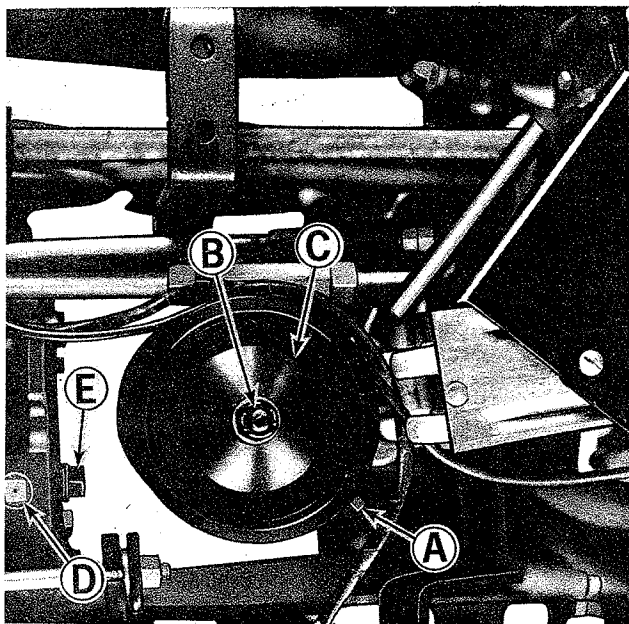

Figure 28. Hydrostatic transmission fluid reservoir and bevel gear housing located under seat deck.
See figure 28. The reservoir for the hydrostatic transmission oil must be kept filled to the bottom threads of check plug (A). To check the reservoir oil level remove plug (A). If oil is not up to the bottom threads of the hole, add Dexron automatic transmission oil. Adding transmission oil will be easier by removing nut (B) and reservoir cover (C). Clean cover (C) carefully before removing it to prevent dirt or foreign materials from contaminating the oil in the reservoir. After filling the reservoir to the level of check plug (A), replace check plug (A) cover (C), and nut (B), and tighten securely.
CHECK BEVEL GEAR BOX OIL LEVEL: See figure 28. The bevel gear box fill plug is located at (D). The gear box is properly filled when SAE 90 weight transmission oil is added until it touches the oil level mark of the